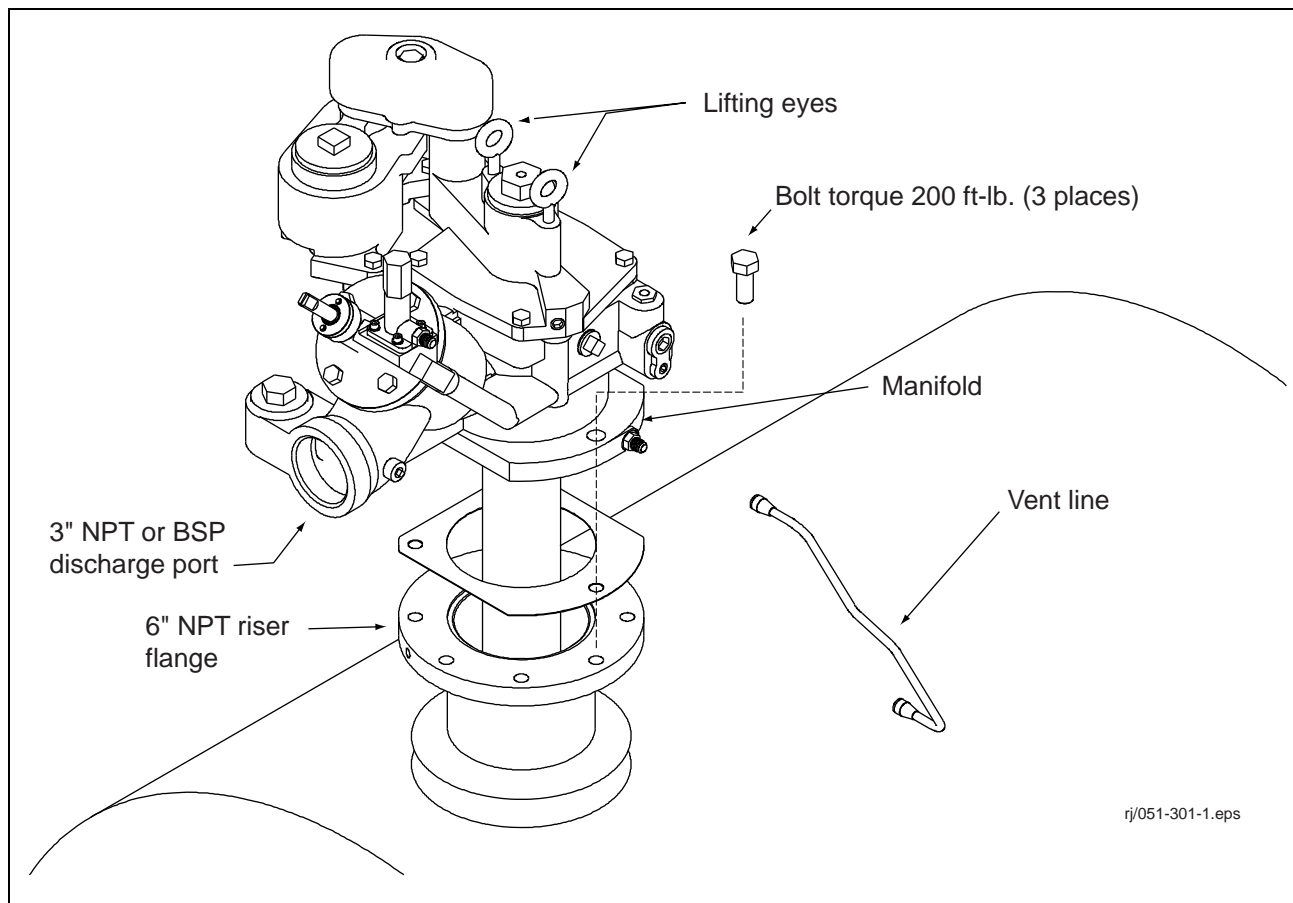

Figure 1. Maxxum Packer-Manifold Assembly
1. Apply a gasket compound to the bottom surface of the manifold and press the gasket onto the manifold's mating surface so the holes in the gasket and manifold align (reference Figure 1).
1. Remove the metal protective shipping caps from the flare fittings (reference Figure 1).